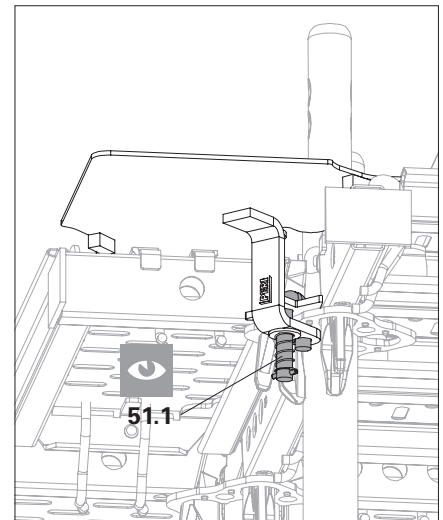

Fig. A7.06b
6. Engage the bolt completely in the brace adapter of the rosette. (Fig. A7.06b)